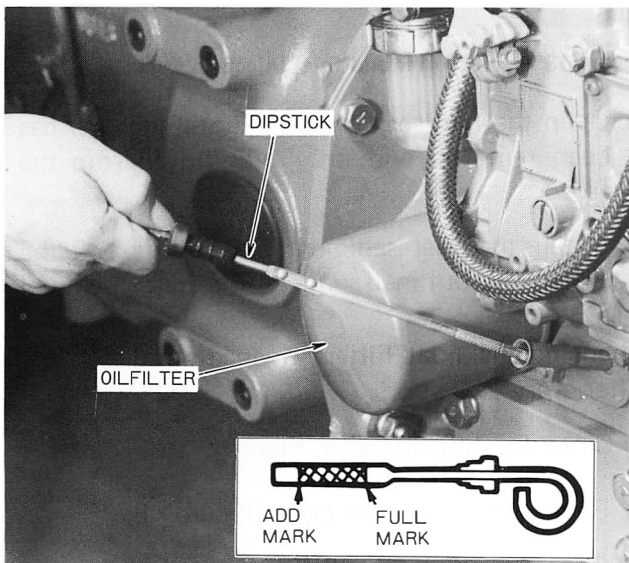

Figure 40 – Engine Oil Level Dipstick and Filter
1. With the tractor standing level, and after the engine has been stopped for a period of time, check the oil level with the dipstick, Figure 40.
2. Unscrew the oil filter, Figure 40, catching the used oil in a suitable container placed below the filter. Discard the filter.